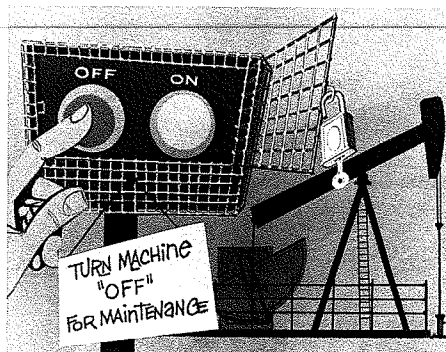

FIG. 3-13 (Gates Rubber Company)
1. Always turn off the power when checking any drive mechanism (Fig. 3-13). Watch it run and watch it come to a stop. Do not touch belts or sheaves until it has completely stopped. Unplug the machine from the power source or turn it off at the master control panel to make sure the power cannot be turned on accidentally.